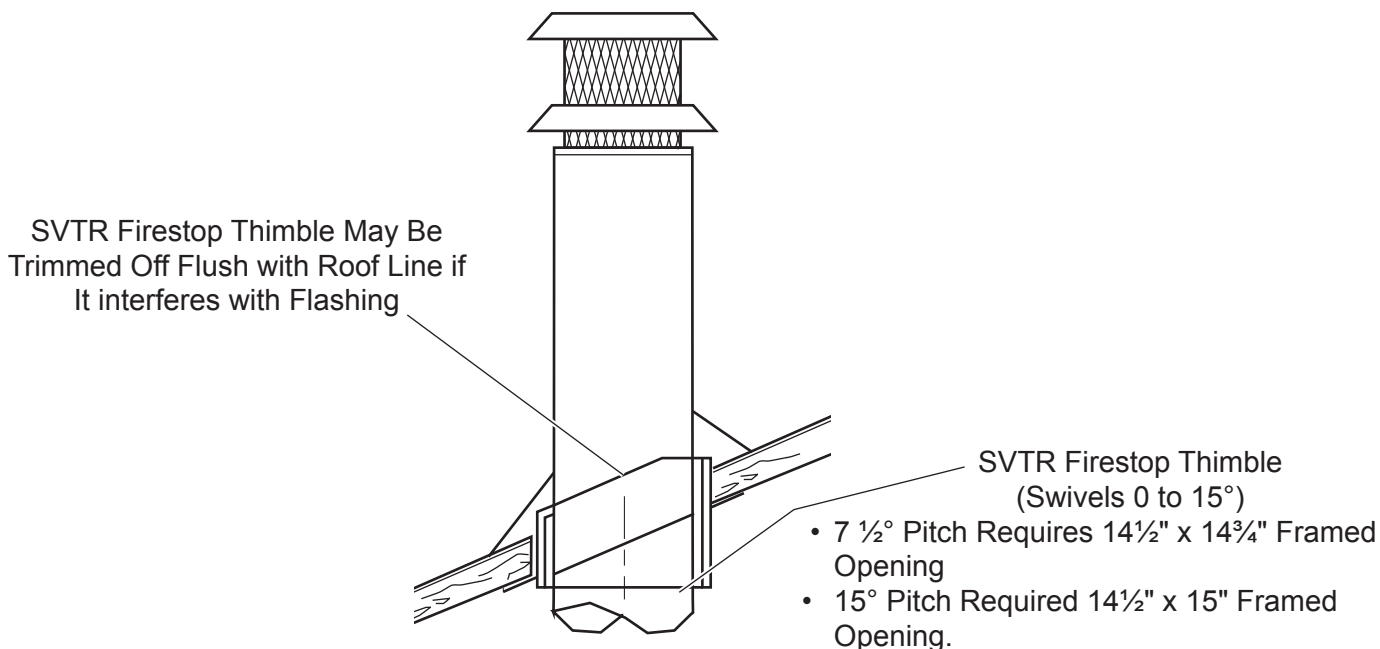

Figure 15 - Unvented Cathedral Type Ceiling
3. For unventilated cathedral type ceiling on double-wide manufactured homes, the firestop thimble should extend through both the ceiling and roof structures. See Figure 15.